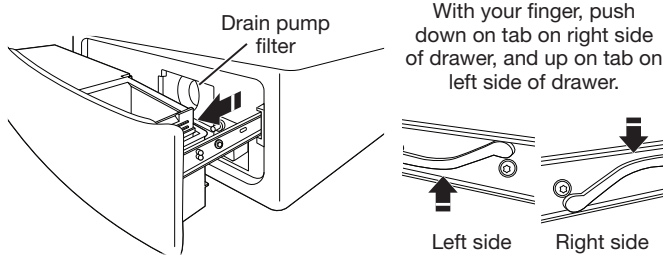

Figure 1
1. Open the dispenser drawer by pulling on the handle at the base of the washer. This will reveal the drain pump filter. Remove the drawer by releasing the tab on each side. See Figure 1.